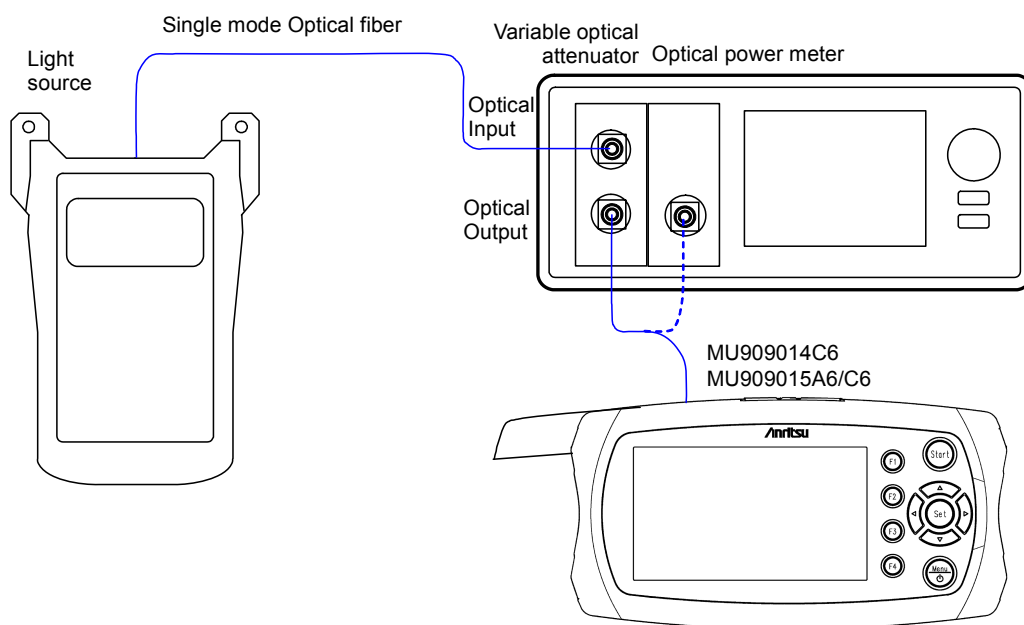

Figure 11.1.10-1 Optical Power Meter Measurement Accuracy Test - Connection Diagram
1. Connect the light source and variable optical attenuator using optical fiber as shown in Figure 11.1.10-1.